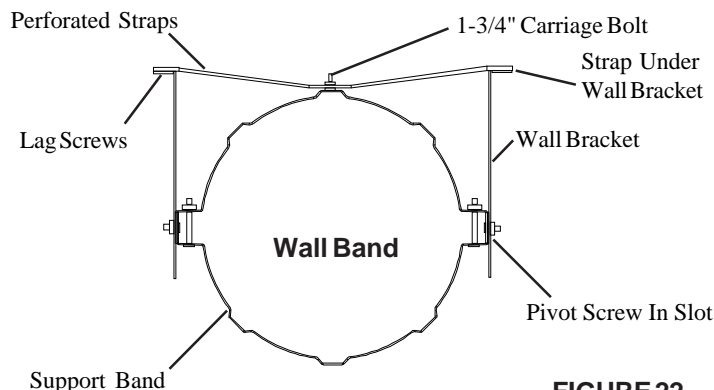

FIGURE 22
1. The required 2" (50mm) minimum clearance is established by the 1-3/4" center (carriage) bolt. Place the 1-3/4" carriage bolt through the center offset of the band half nearest the wall. Place single hole ends of the perforated straps over this bolt. Install nut tight against strap so that straps are horizontal (as per Figure 22).
Ensure that you have the proper roof flashing by checking your roof pitch using a level and two rulers (see Fig. 22) or by using a roof pitch card.